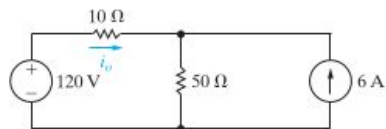

Figure 2.18 ▲ The circuit for Example 2.8.
- a) Use Kirchhoff's laws and Ohm's law to find i_o in the circuit shown in Fig. 2.18.